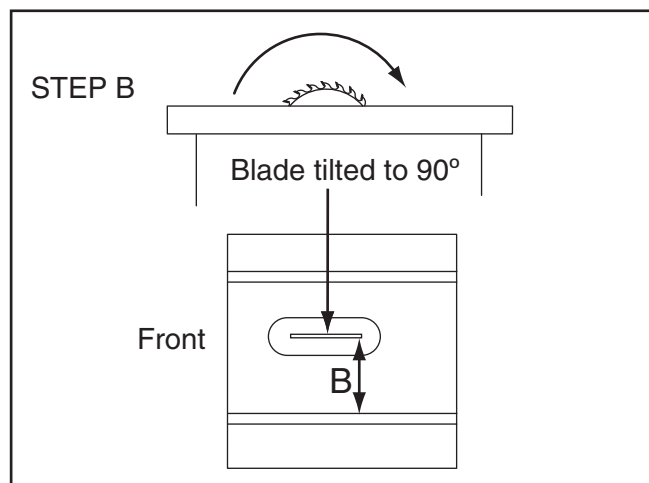

Figure 107. Measuring distance from miter slot to carbide tip on opposite side of table insert.
6. Compare distance from marked blade tip to miter slot, as shown in **Figure 107**.